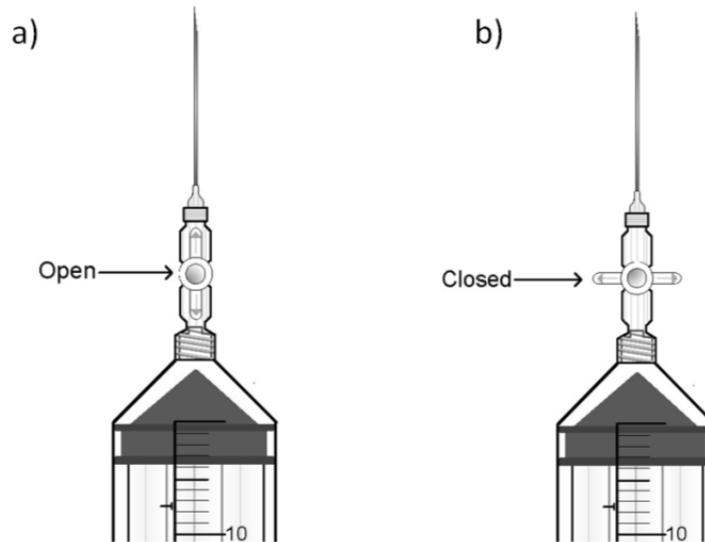

Figure 11. Example of a syringe with a stopcock with attached needles in the a) "open" and b) "closed" positions
4. After shaking, place needle with needle cover still attached on 1-way stopcock. Once needle is attached, remove the plastic covering. Holding the syringe upright, open the stopcock (Figure 11) and push a small amount of air (~0.5 mLs) through the needle to purge the air in needle.
5. With stopcock still 'open' and syringe held upright, insert the needle through the rubber septum of the gas vial (Figure 11 and Figure 12) and push gas into the vial. Properly evacuated vials will automatically suck in the gas. Push as much gas in as possible.